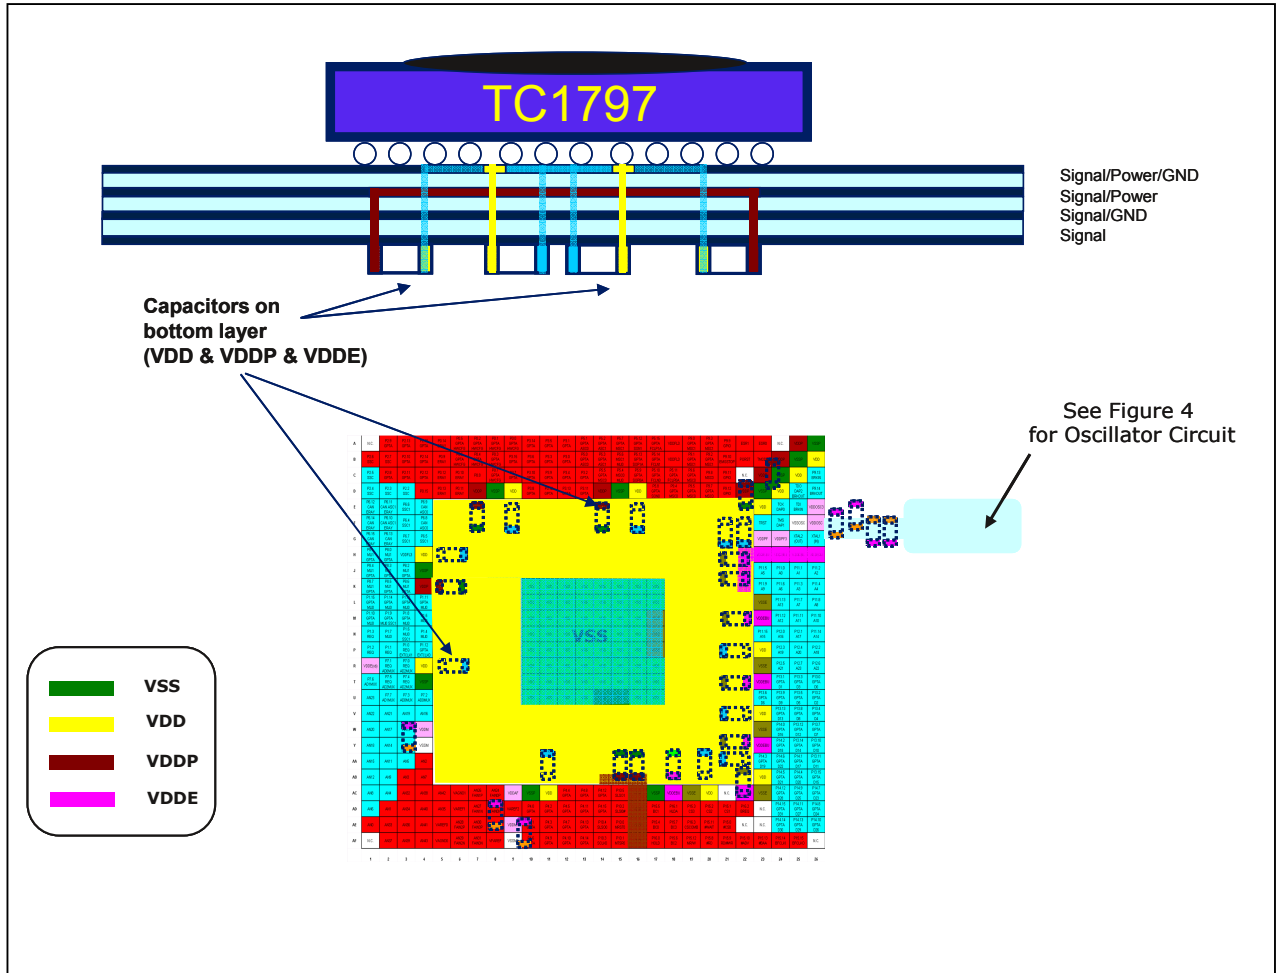

Figure 3 Capacitor Placement Example for Decoupling of TC1797 (BGA-416)
- The three supply domains VDD, VDDP and VDDEBU of TC1797 should be decoupled separately (see decoupling placement example in Figure 3).
In Figure 3 shown examples are based on device power supply concept and implementation. Alternative implementations are also acceptable and must be evaluated within application by customer.